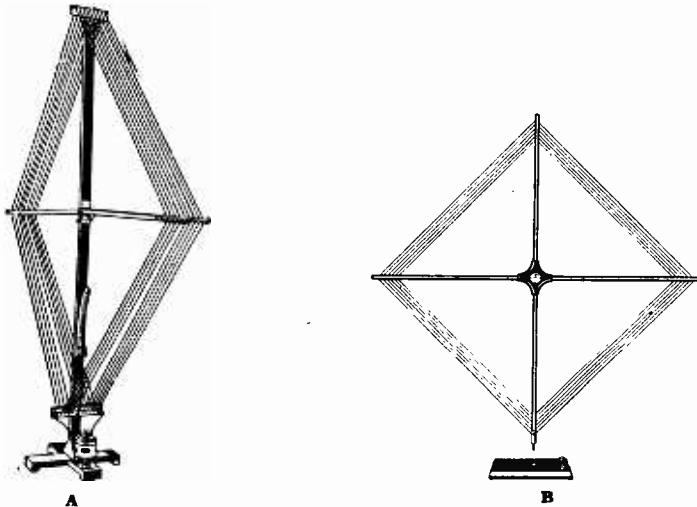

Fig. 29—Two types of loop aerials in common use, the solenoid and spiral.
Two forms of loops are in common use—the box or single layer square type, Figure 29 (A) and the spiral or flat square type, Figure 29(B). The spiral loop is the simplest and cheapest to construct, but is less desirable since the inner turns rapidly become less useful as the area diminishes. In simple language, the theory underlying the design and action of such a loop or coil antenna is as follows: